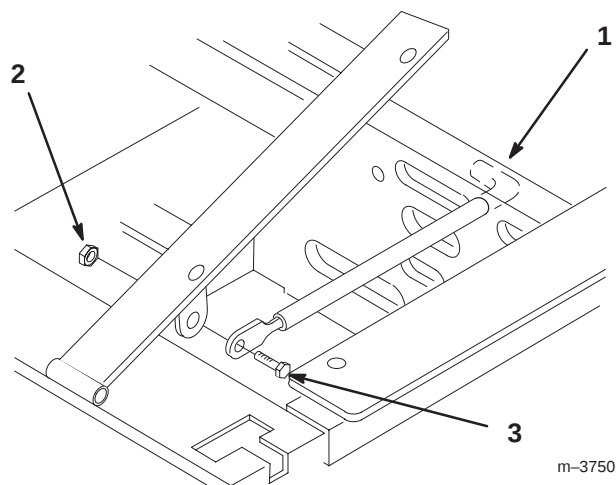

Figure 3
1. Tilt seat up. Remove the locknut (5/16 in.) from bolt attaching seat retaining rod to seat frame (Fig. 3).
2. Remove retaining rod from seat and insert the L shaped end of the rod into the hole directly above the left-side hydraulic pump (Fig. 3).
- Place the seat retaining rod to the outside of the mounting tab of the seat frame and secure with a bolt (5/16 x 1 in.) bolt and locknut 5/16 in. (Fig. 3).